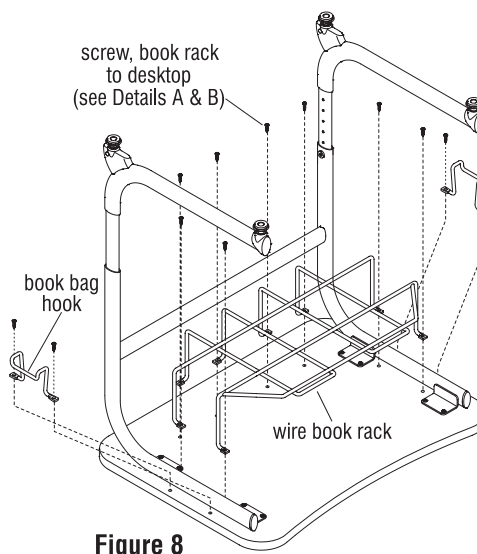

Figure 8
1. Carefully turn the desktop upside down on a soft, protective surface (Figure 8).
2. Position the wire bookrack or book bag hooks, as illustrated onto the underside of the desktop. Align either the bookrack or bag hooks to pre-drilled holes in desktop. Using the appropriate screws (See Details A & B, page 1), secure the wire bookrack to the desktop. Do not over-tighten screws (Figure 8).
Note: Adjustment of legs for tripod desk is the same procedure as "Adjustable Height 4-Leg Desk" on page 1 (Figure 8).